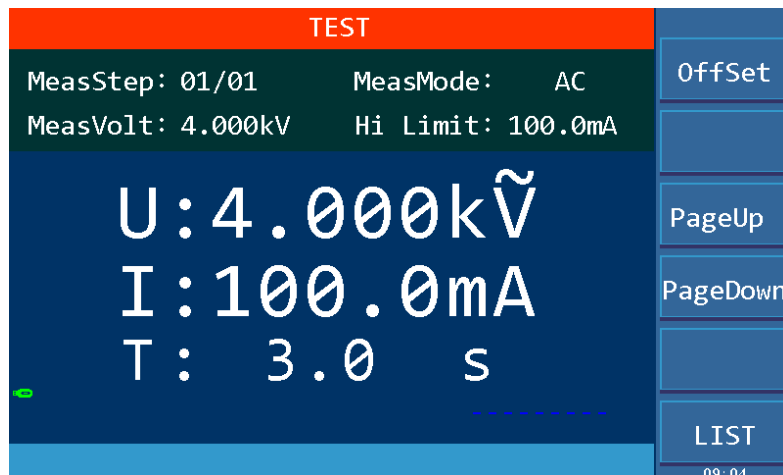

Figure 4-17.1 AC Test Interface
1. Press **[TEST]** to enter the AC Test interface as shown in Figure 4-17.1.
See Figure 4-17.1 ~ Figure 4-17.5 for details.